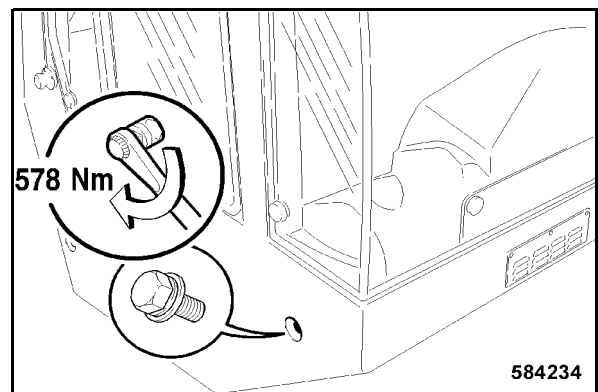

Fig. 219
- Tighten the front lateral fastening screw on the right hand side with 578 Nm (Fig. 219).